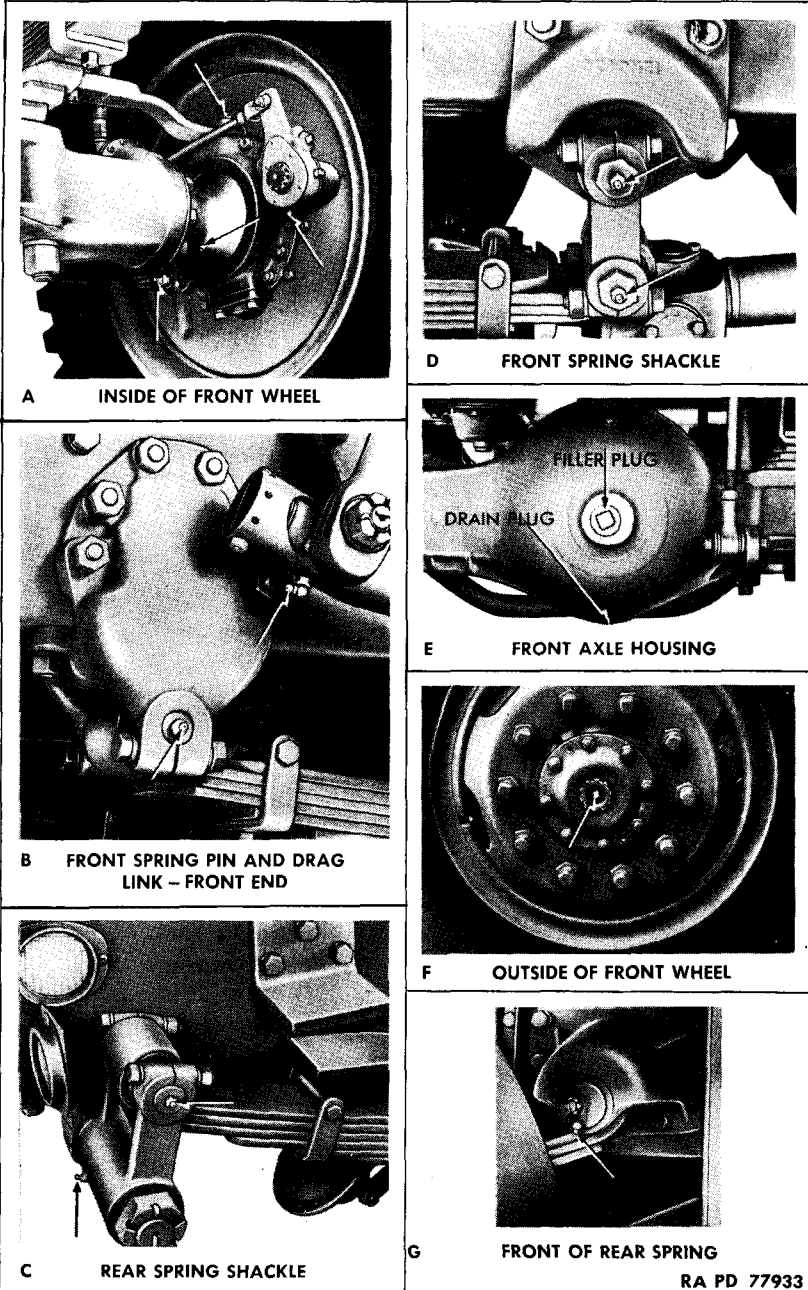
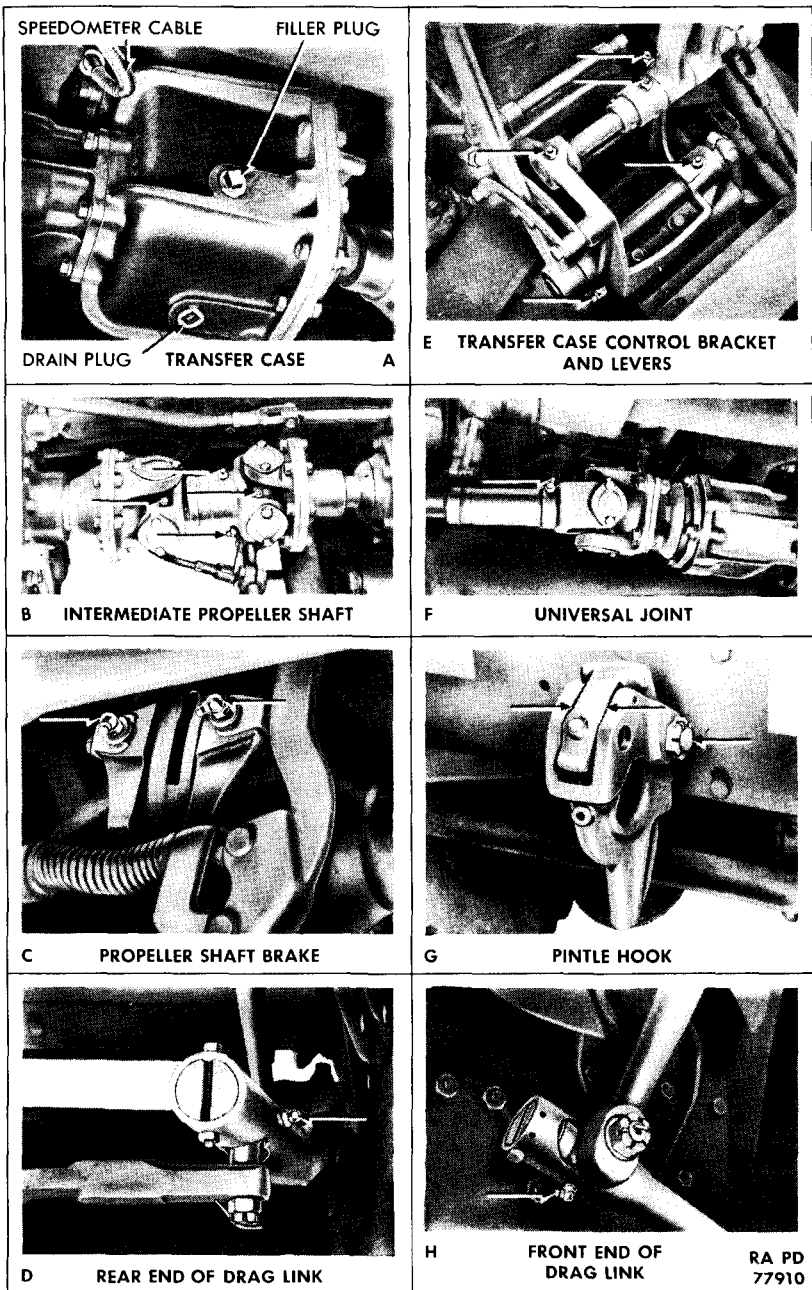

Figure 8 — Wheels, Axles, and Springs — Lubrication Points
Figure 9 – Miscellaneous Lubrication Points
- B fig. 8 Spring Bolt CG 1
- H fig. 9 Drag Link CG 1
- A fig. 8 Steering Gear Housing GO 1
- A fig. 8 Steering Gear Housing (Remove plug, install fitting) CG 1
- A fig. 8 Slack Adjuster CG 1
- A fig. 8 Brake Camshaft CG 1
- A fig. 8 Drag Link CG 1
- A fig. 8 Steering Knuckle Upper Brg. CG 1
- F fig. 8 Front Wheel Bearings CG 1
- A fig. 8 Universal Joint and Lower (Remove, clean and re-pack) CG 1
- A fig. 8 Steering Knuckle Brg. (Note 4) CG 1
- A fig. 8 Brake Anchor Pins CG 1
- A fig. 8 Springing Tie Rod CG 1
- E fig. 8 Front Differential Fill and Level Chest Level (Note 7)
(7) **GEAR CASES (A and F, fig. 7; E, fig. 8; A, fig. 9).** Weekly, check level with truck on level ground and, if necessary, add lubricant to within 1/2 inch of plug level when cold, or to plug level when hot. Drain and refill at intervals indicated on guide. Drain only after operation. Keep housing vents clean. Transmission has "SUMMER" and "WINTER" level markings at filler plug.
(8) **UNIVERSAL JOINTS (FRONT WHEELS) (A, fig. 8).** With truck on level ground, remove plug on under side of joint; also remove plug in wheel hub and install fitting. Fill through fitting to level of plug hole. Remove fitting and reinstall plug.
(9) **UNIVERSAL AND SLIP JOINTS (B and F, fig. 9).** Apply **GREASE**, general purpose, No. 1 above +32°F. and No. 0 below +32°F. to universal joint until it overflows at relief valve, and to slip joint until lubricant is forced from vent at universal joint end of spline.
(14) **OILCAN POINTS (G, fig. 9).** Every 1,000 miles, lubricate throttle and spark control rod ends, clevises, hinges, latches, air compressor rocker arm shaft, pintle hook, and hand brake linkage with OIL, engine, SAE 30 above +32°F. or SAE 10 +32°F. to 0°F. Below 0°F., use OIL, lubricating, preservative, special.